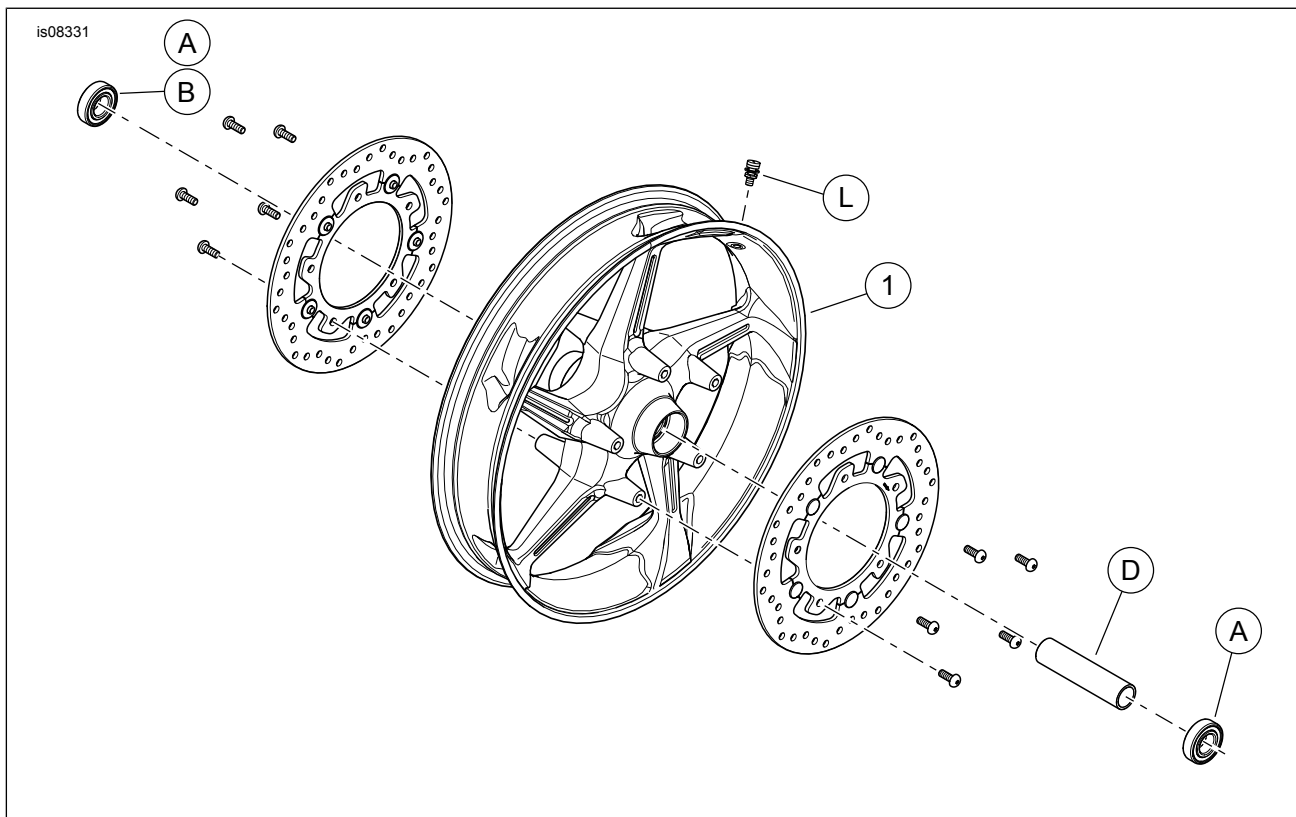

Figure 1. Service Parts: Aggressor Front Wheel Kits
2. See Figure 1. Install valve stem assembly (L ) on wheel. Refer to TIRES in service manual.